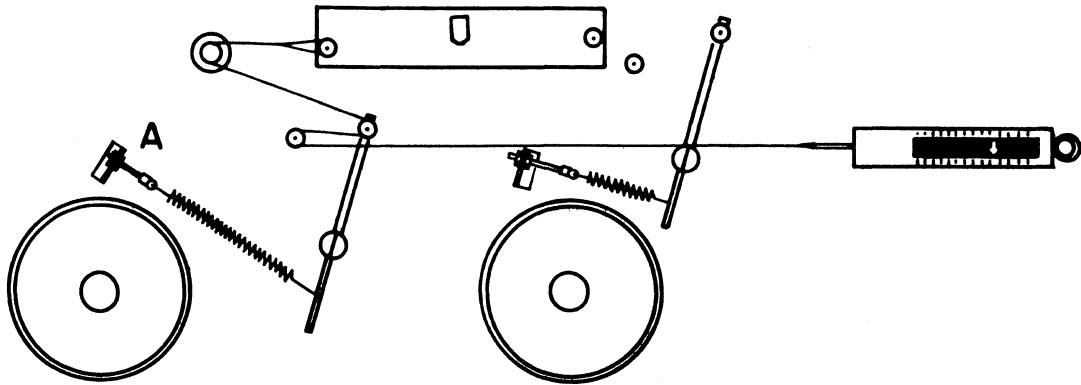

Figure 6-4. Take-up Tension Spring Measurement
Thread the tape as shown in Figure 6-4. Using a force gauge, measure the force required to pull the tension arm off the backstop and slowly through its stroke. The force required should not vary by more than a total of 0.3 ounce as the motion of the arm is slowly reversed at any point of the stroke. Adjust the spring tension screw (A) until the